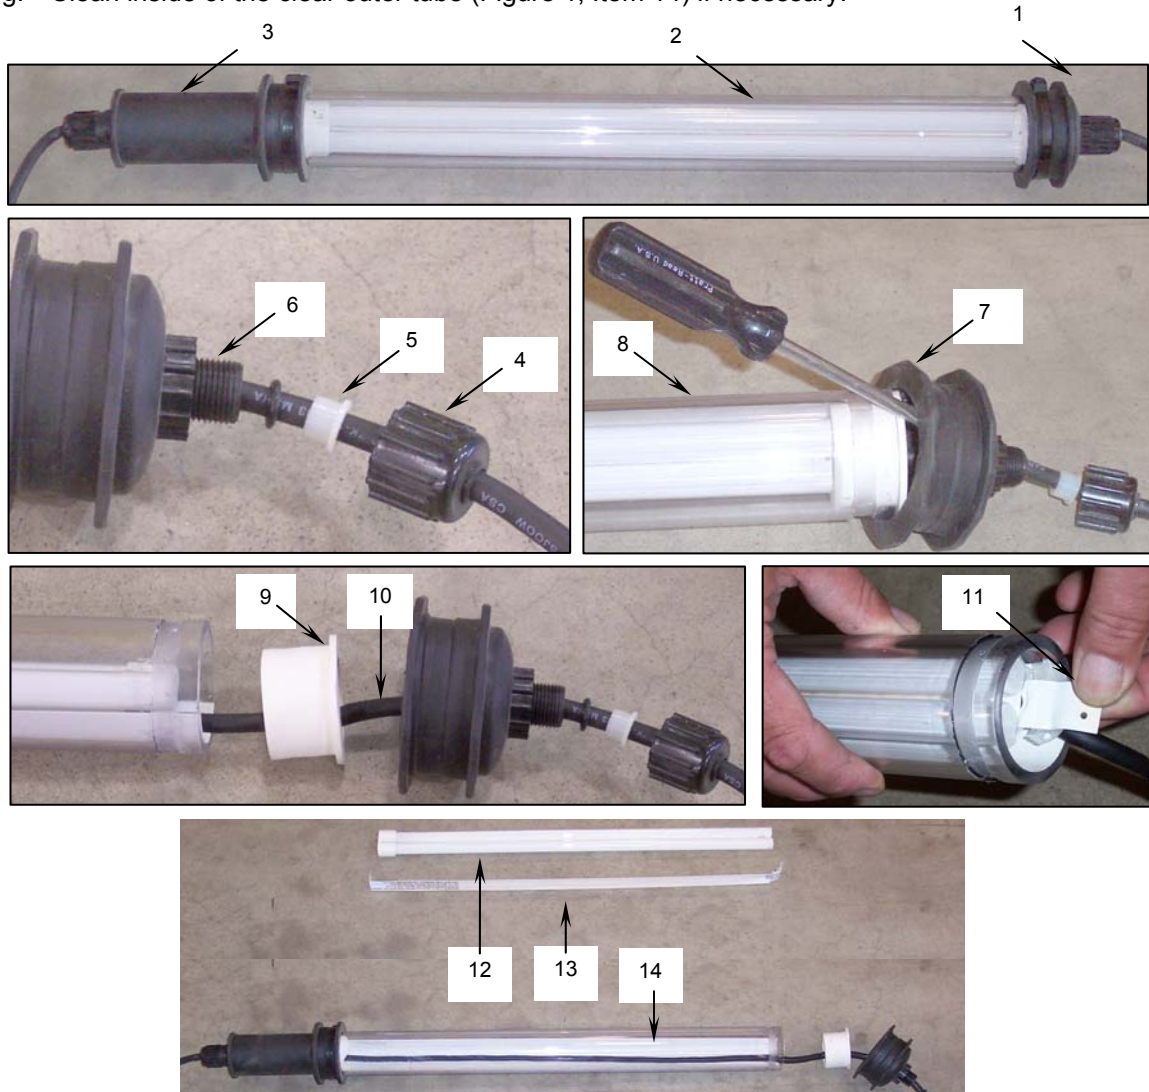

Figure 1. Replacing the Bulb in the Electric Light.
- a. Remove the cable tie (Figure 1, Item 1) from the smaller end cap (Figure 1, Item 2) located on the end of the electric light assembly opposite from the handle (Figure 1, Item 3). Do not remove the cable tie at the handle.
- b. Remove the strain relief nut (Figure 1, Item 4) and sleeve (Figure 1, Item 5) from the strain relief (Figure 1, Item 6).
- c. Remove end cap (Figure 1, Item 7) by gently prying the cap off the clear outer tube (Figure 1, Item 8) with a screwdriver or similar tool.
- d. Carefully remove shock (Figure 1, Item 9), using care not to pull on the power cord (Figure 1, Item 10).
- e. Grasp the tab end of the bulb puller (Figure 1, Item 11) and gently, but firmly, pull the bulb out of the tube.
- f. Remove bulb puller (Figure 1, Item 12) from old bulb (Figure 1, Item 13) and dispose of bulb properly. If old bulb is not broken, there is a vacuum inside and breaking the bulb can be dangerous.
- g. Clean inside of the clear outer tube (Figure 1, Item 14) if necessary.